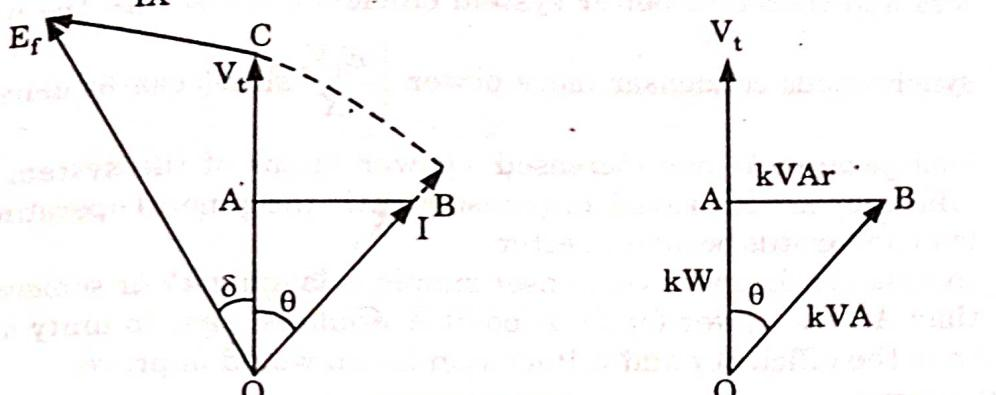

Fig. 2.12.2.
10. Let  $V_t$  is the terminal voltage at point A and  $E_f$  is the alternator excitation voltage.  $I$  is the load current of power factor  $\cos \theta$  and  $X$  is the total reactance between  $E_f$  and  $V_t$ , then phasor diagram for this system is as shown in Fig. 2.12.2.